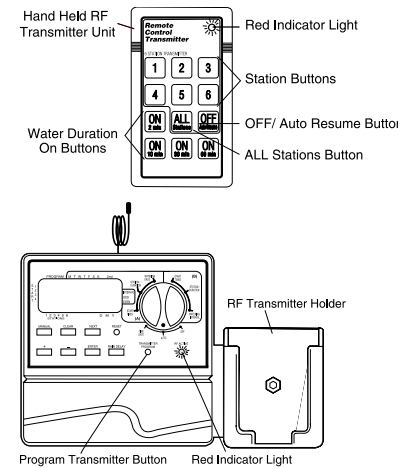

Figure 17: Watering Using Wireless Remote Features
- Press the desired station button on the Transmitter (number 1, 2, 3, etc.). The Transmitter will beep once, and the red light will turn on [See Figure 17].
- Press the desired watering duration on button (choose 2, 10, 30, or 60 minute durations). The Transmitter will beep three times to confirm the command. The Timer's red light will flash several times to acknowledge receipt of the wireless signal [See Figure 17]. During wireless watering, the Timer display will show the active station being watered (an "A" above the station number), show remote, and count down the number of minutes remaining for that station.
- Press the all button on the Transmitter. The Transmitter will beep once, and the red light will turn on [See Figure 17].
times to confirm the command. The Timer's red light will flash several times to acknowledge receipt of the wireless signal [See Figure 17]. During wireless watering, the Timer display will show the active station being watered (an "A" above the station number), show remote, and count down the number of minutes remaining for each station. Note that each station will be activated, regardless of the programming in the Timer.